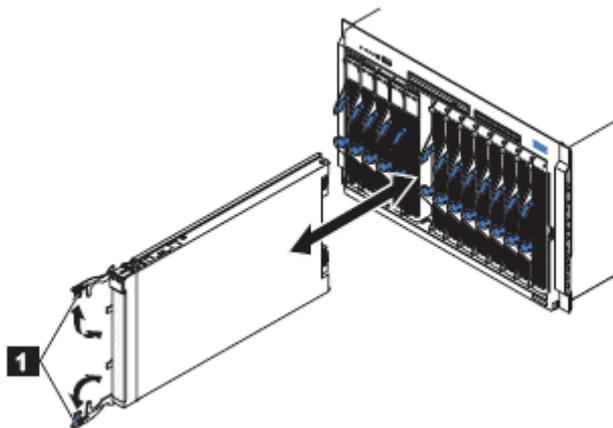

Figure 4-2. Installing the blade server in a Bull Blade Chassis - Enterprise
5. Verify that the release handles on the blade server are in the open position (perpendicular to the blade server) as shown in **1** in *Figure 4-2* on page 204.